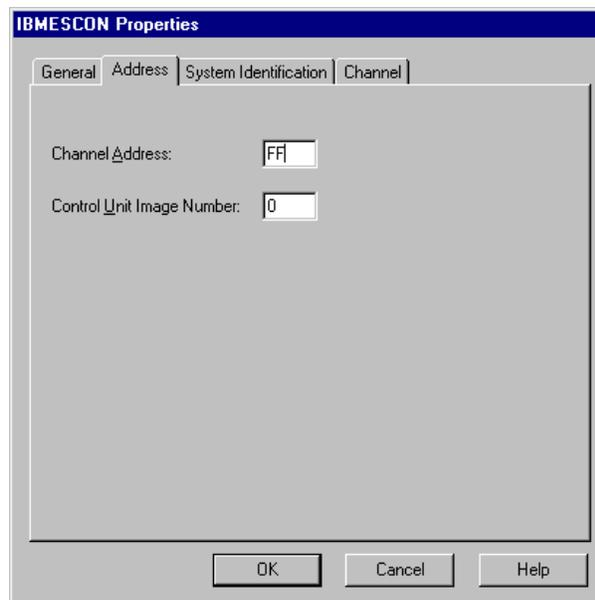

Figure 8-13. Channel Address
3. The Channel Address dialog box appears (Figure 8-13).